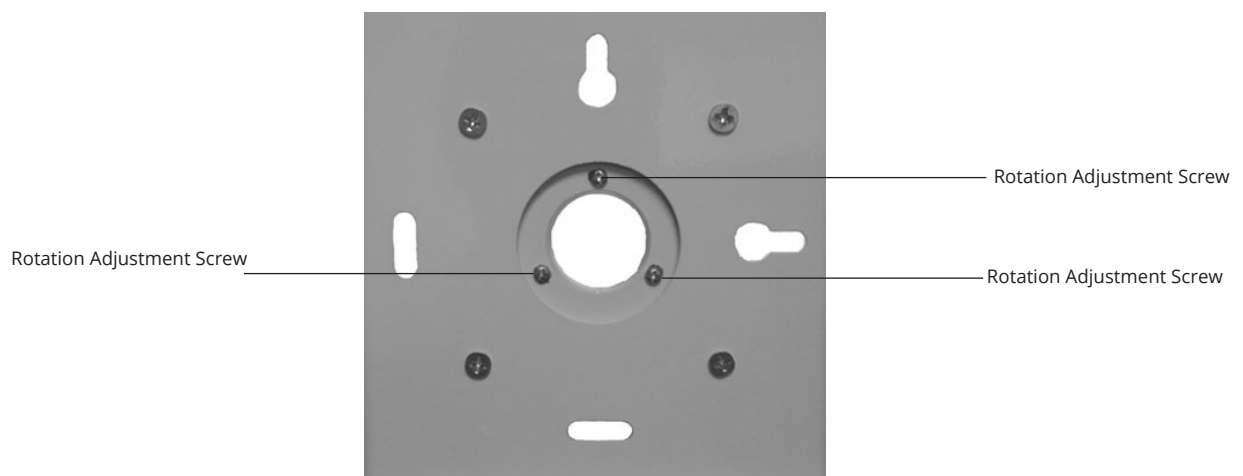

Figure 10
2. Using a Phillips screwdriver, turn the screws clockwise to tighten and counterclockwise to loosen, see **Figure 10**.